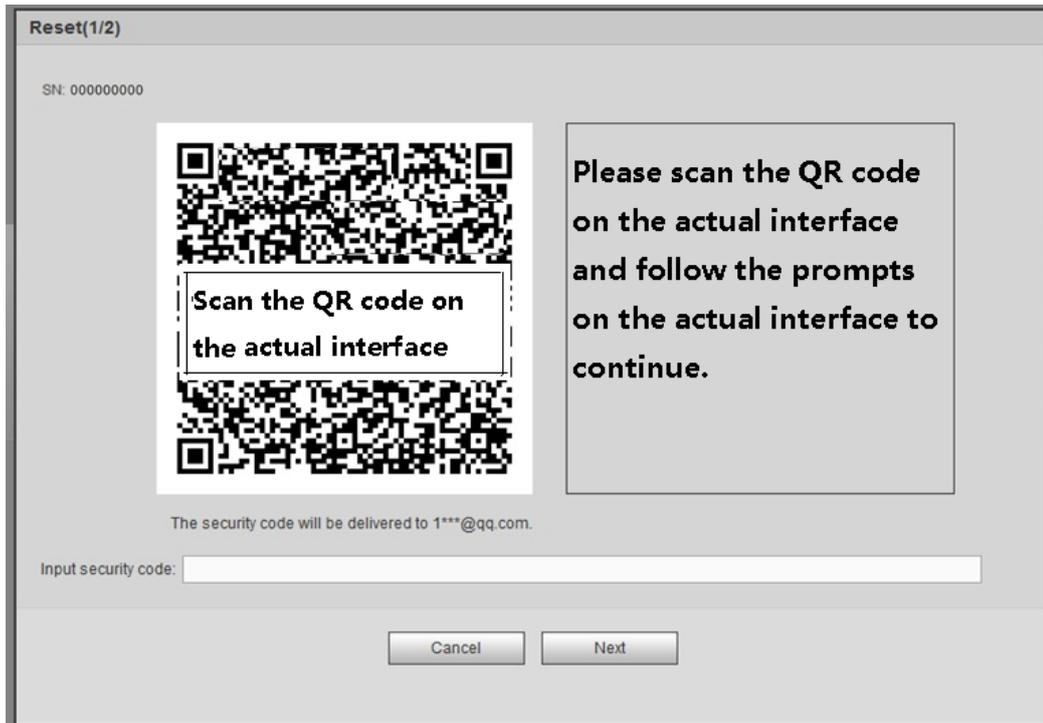

Figure 3-7
Step 2 Click **Forgot password**, enter the following interface. See Figure 3-7.